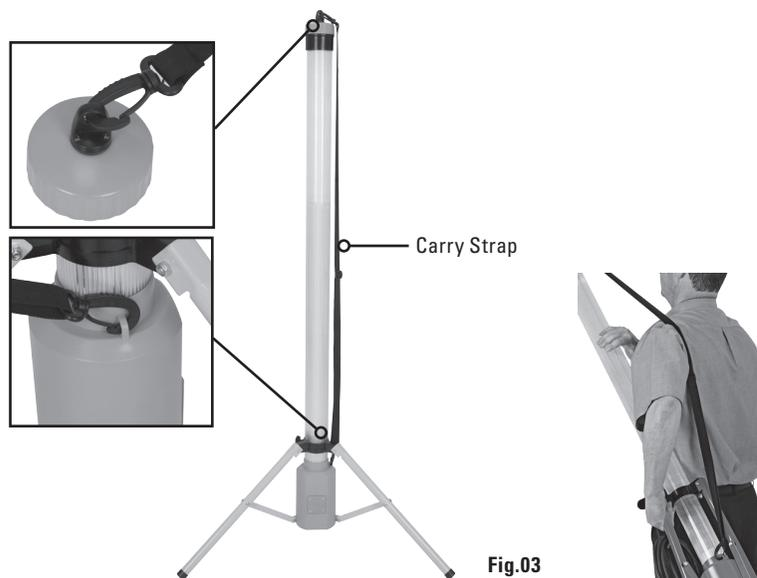

Fig.03
5. If required a carry strap (supplied in a separate plastic bag) may be attached to the worklight. It is attached by screwing the eyelet into the top cover and clipping the strap to the top and bottom of worklight body as shown Fig.03.